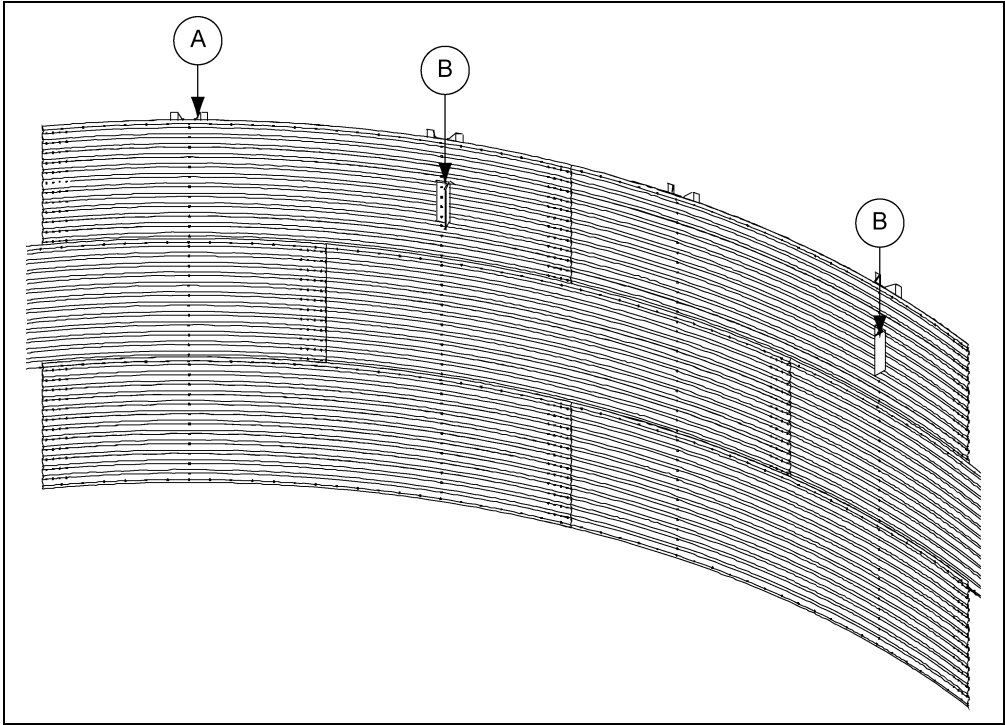
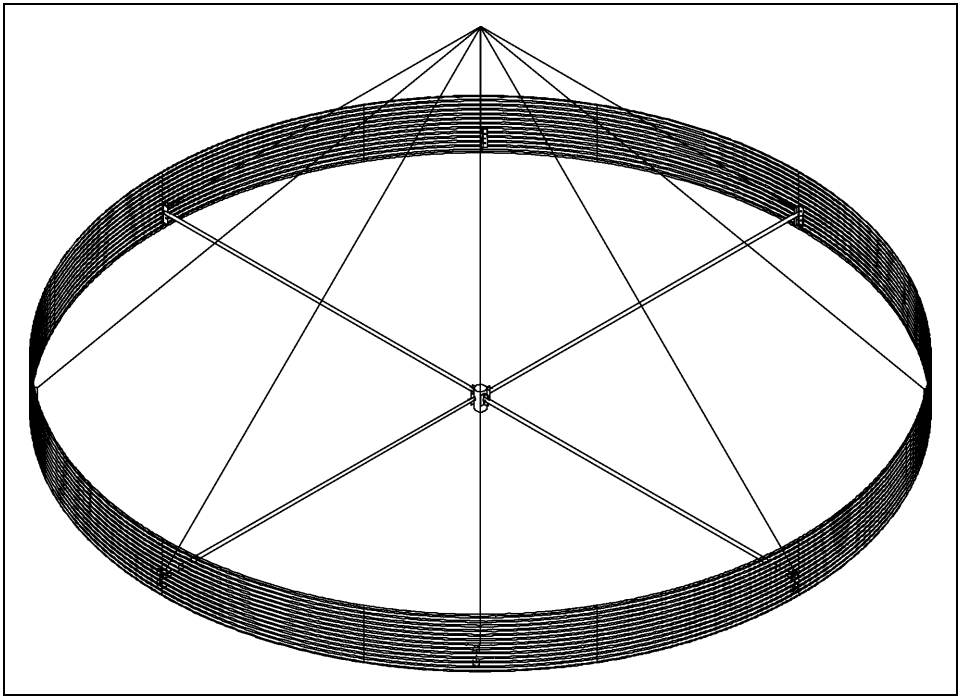

Figure 15A
Figure 15B
- a. Lifting brackets should be attached to the stiffeners. At least one bracket per sidewall sheet should be used. These are usually attached in the third ring from the bottom of the tank. Brackets should attach to a minimum of four (4) bolts through the stiffener. Attach cables to the lift brackets and to the crane hook, which has been lowered through the center ring opening. Cables should be sized to handle the entire weight of the bin. Make all lift cables of equal length before the bin is lifted. Refer to Figure 15A and Figure 15B on Page 79.